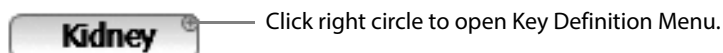

Figure D-1. Circle to open Key Definition menu.
- 3 Click the right circle on the key to open the **Key Definition** window. (See Fig D-1.)